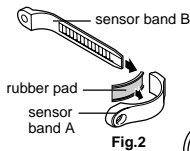
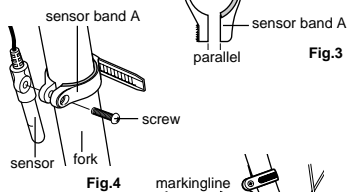

Fig.2
Fig.3
1. Insert the band-B into the slit of the band-A, and put the rubber pad inside of the band-A(fig. 2). Adjust the length in order that the screw-fastening part of the bands are parallel when mounted to the fork(fig. 3). *To pull out the band B from band A, tug strongly.